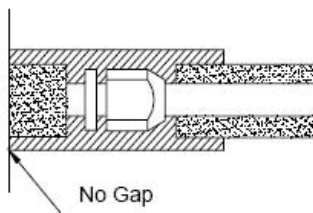

Fig.50
- 2) All pipes are bound and taped together and also should be trapped to prevent water from returning to the room (See Fig.50)
2. The joint connecting to the indoor unit must be wrapped by thermal insulation material. There shall be no gap between the connecting pipe joint and the wall of the indoor unit. Refer to Fig.50.